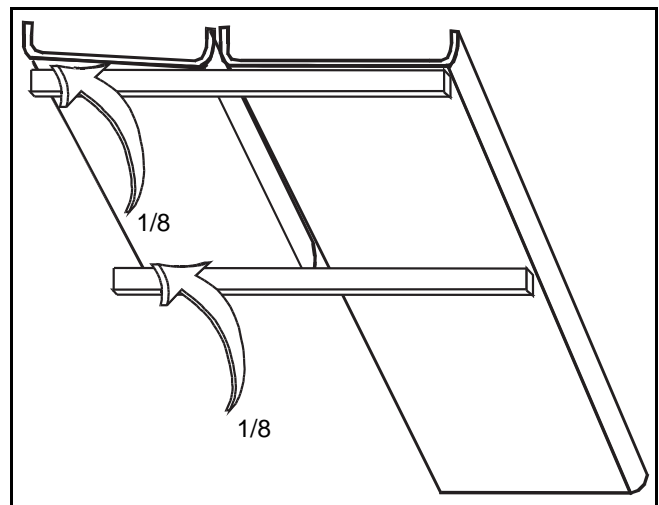

Figure 20 Independent Angle of Attack
- 3) With straight edge flat against the main screed bottom, the straight edge should contact the extending screed bottom at the trailing edge. There should be 1/8" gap between the leading edge of the extending screed bottom and the straightedge. (Figure 20)